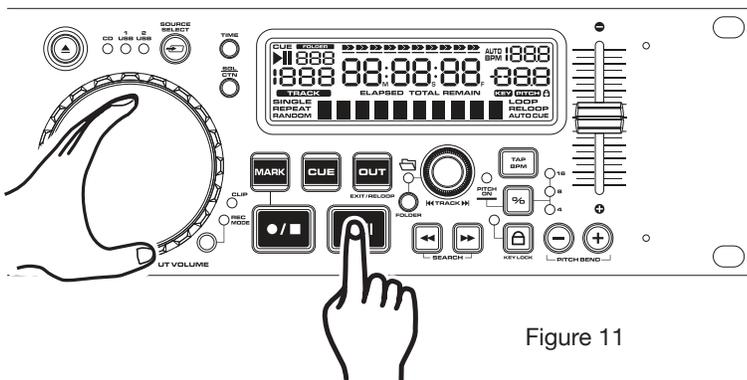

Figure 11
This feature allows you to scroll through a track to set a cue, or loop point. To use the scroll function you must first be in Pause Mode. Once you are in Pause mode, use your finger tip or hand to turn the *JOG WHEEL (20)* to scroll through the track (figure 11). Turning the wheel in a clockwise direction will advance the frame search and turning the wheel in a counter-clockwise direction rewinds the frame search. When you use the *JOG WHEEL (20)* the monitor (headphone level) of a mixer allows you to here what you are scrolling through. Once you reach your desired starting point you can playback from this cue (starting) point by pressing the *PLAY/PAUSE BUTTON (16)* as in figure 11. Pressing the *CUE BUTTON (18)* will return the disc to the cue point just set.